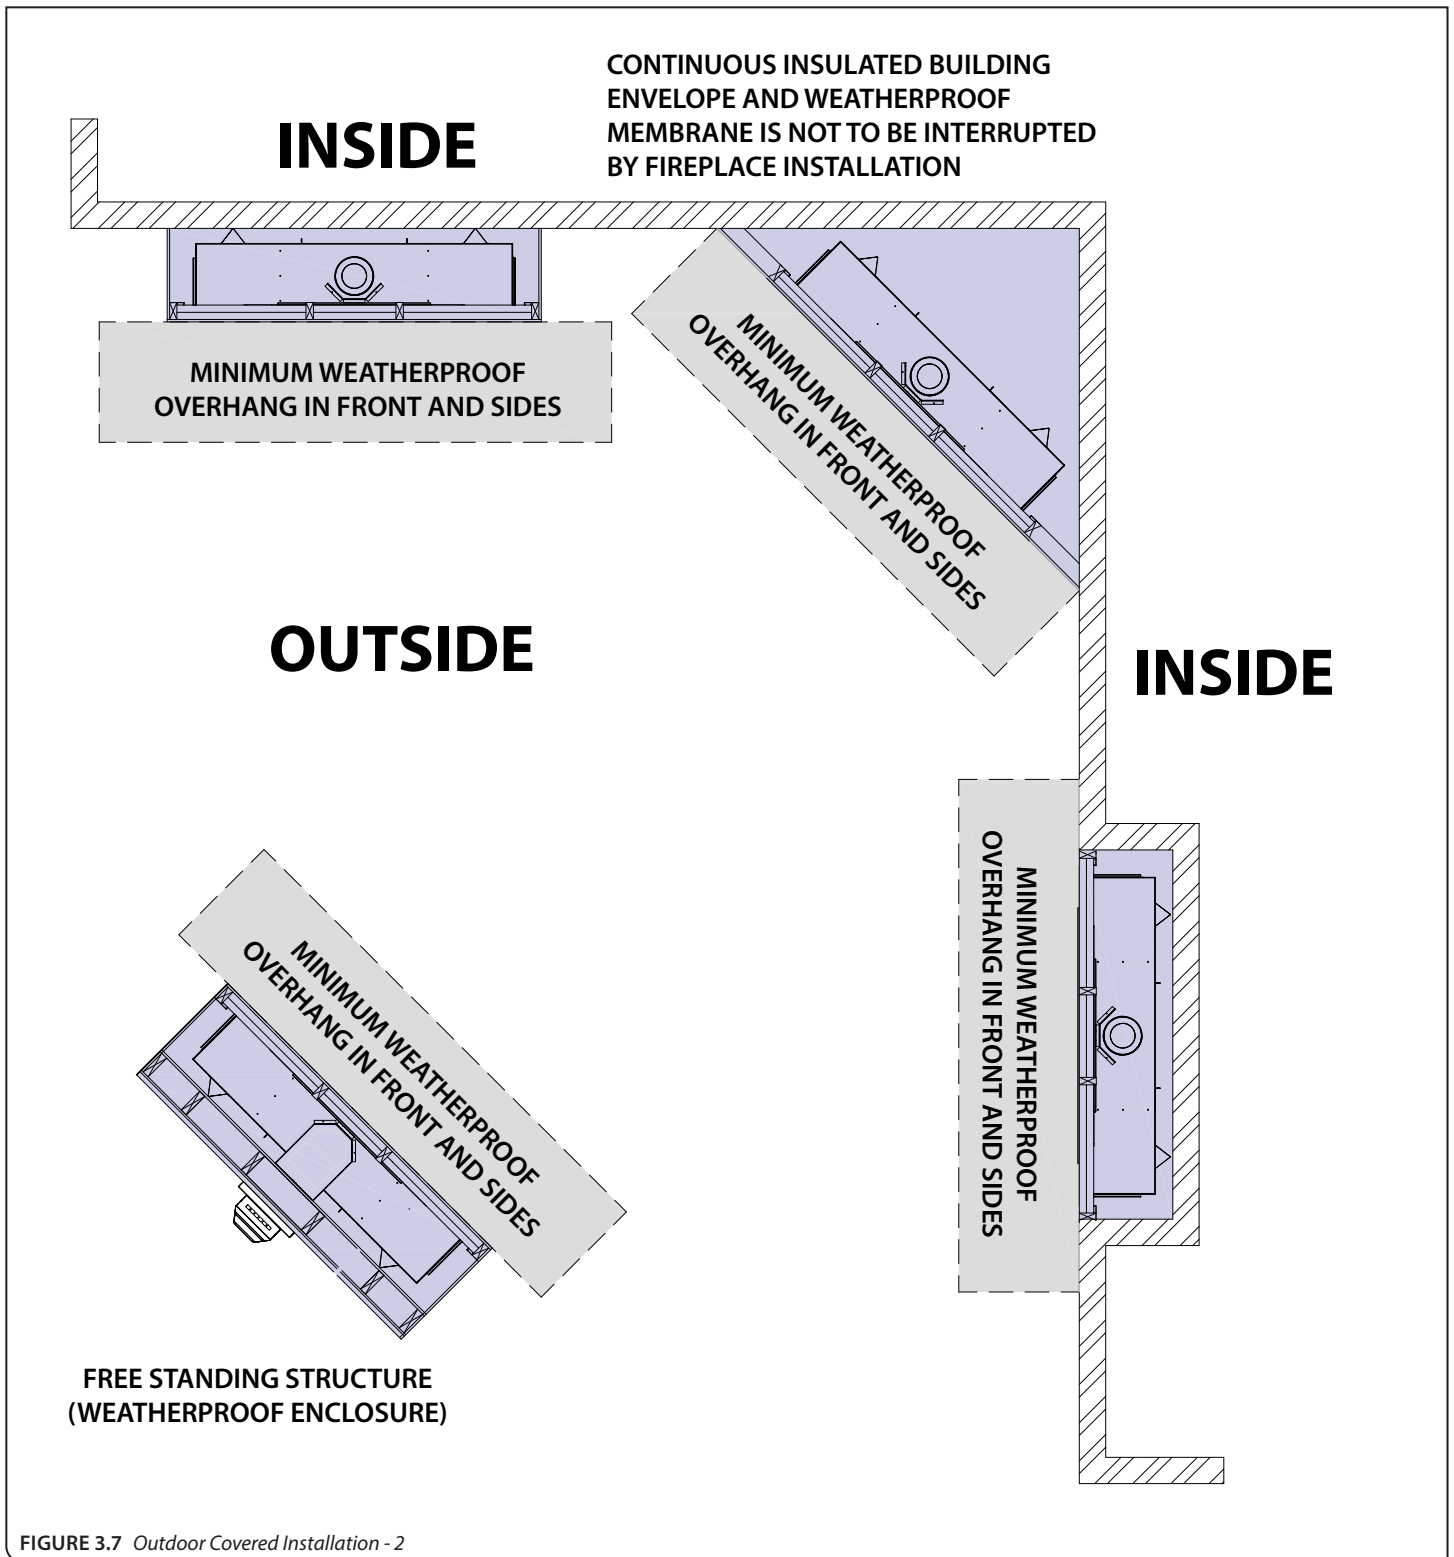

FIGURE 3.7 Outdoor Covered Installation - 2
- The continuous insulated building envelope and weatherproof membrane are not to be interrupted by fireplace installation. See **FIGURE 3.7** on the following page.